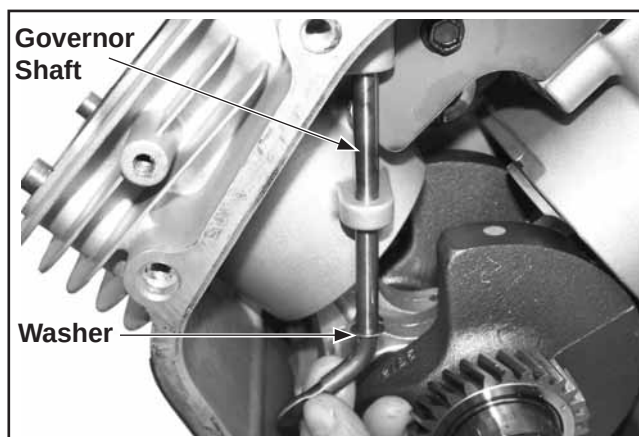

Figure 8-48. Removing Governor Cross Shaft.
2. Remove the cross shaft with the small inner washer through the inside of the crankcase. See Figure 8-48.